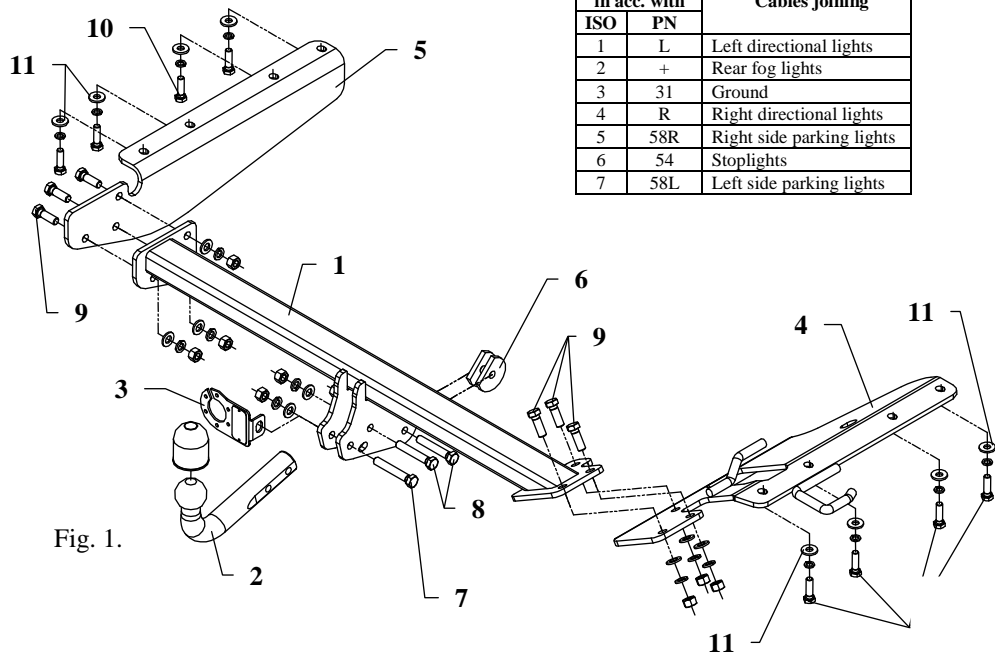

Fig. 1.
4. Right bracket (pos. 4) fix loosely to the right chassis member by bolts M10x1,25x35mm (pos. 11) and flat washers (pos. 11).
5. Left bracket (pos. 5) fix loosely to the left chassis member by bolts M10x1,25x35mm (pos. 11) and flat washers (pos. 11).
6. Between mounted brackets (pos. 4 and 5) put main bar of the towbar (pos. 1) and fix it by bolts M12x35mm (pos. 9) and by bolt M12x70mm (pos. 8) to the original towing eye. Use two cut washers (pos. 6), see figure 1.
8. Fix tow-ball (pos. 2) with socket plate (pos. 3) using bolts M12x75mm (pos. 7) and M12x70mm (pos. 8) from accessories. See figure 1.